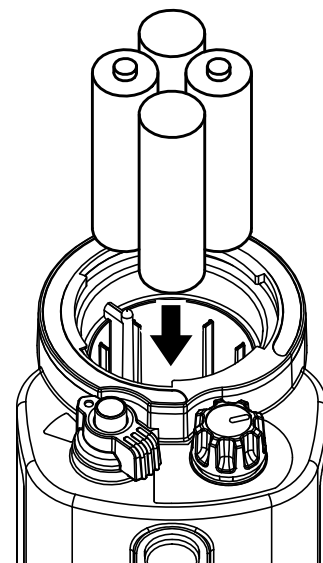

Fig.2
- 4 Insert four batteries with the polarity shown in the battery compartment. (Fig.2)**